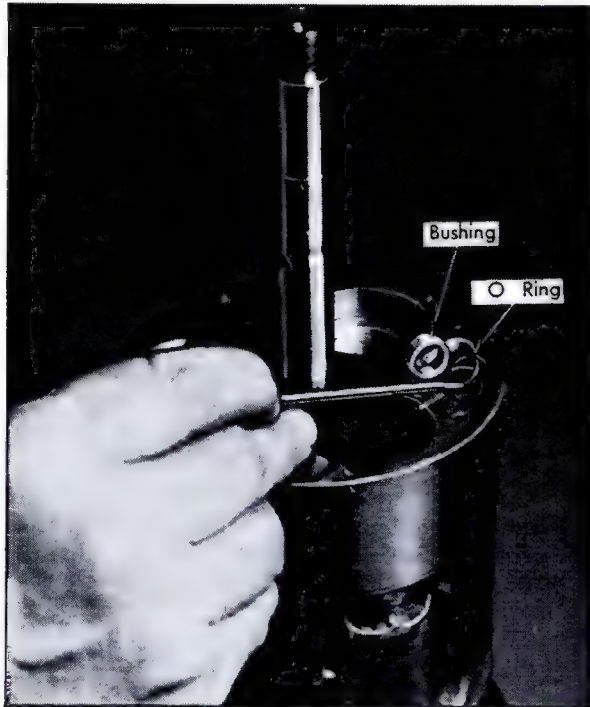

Fig. 1-70 Installing O-Ring on Crossover Tube
2. Install new O-ring and bushing on front end of discharge cross-over tube, Fig. 1-70. The O-ring and bushing are service parts only for internal mechanisms that have been disassembled in the field.